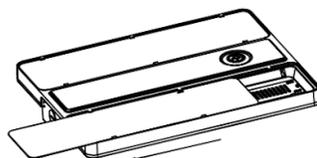

Fig. 10
2. Turn the luminaire around and carefully slide the optics off. (Fig. 10)